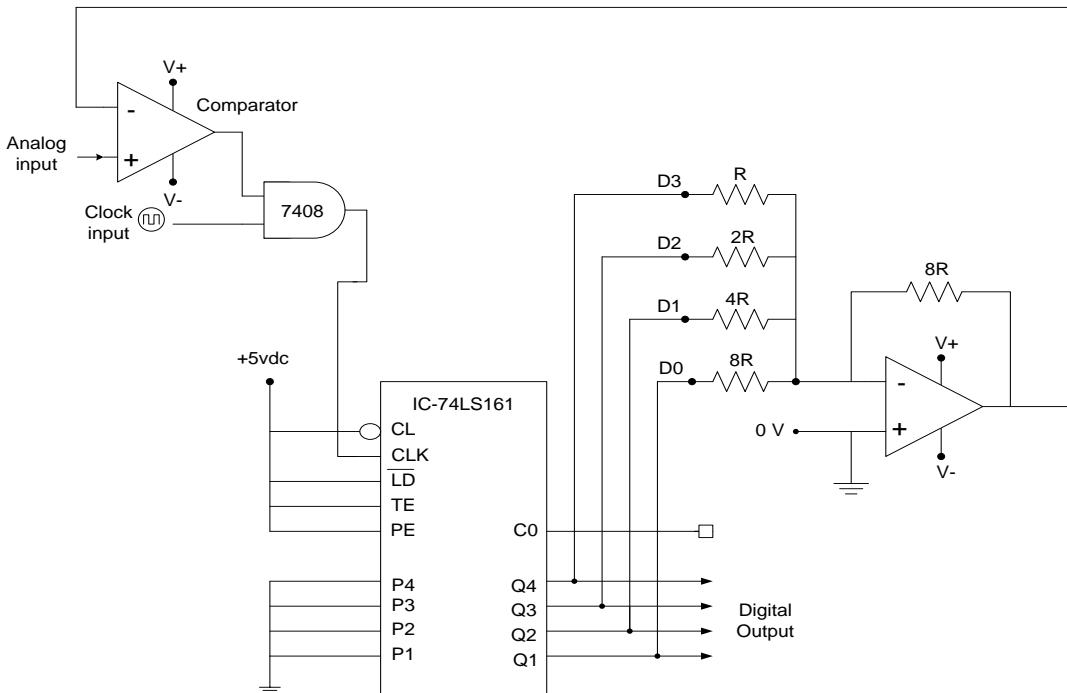

Figure 65: Analog to Digital Converter
1. Assemble the circuit as shown in Figure 65.
3. Set the binary counter RESET (CL) to logic level 0, switch the power supplies on.